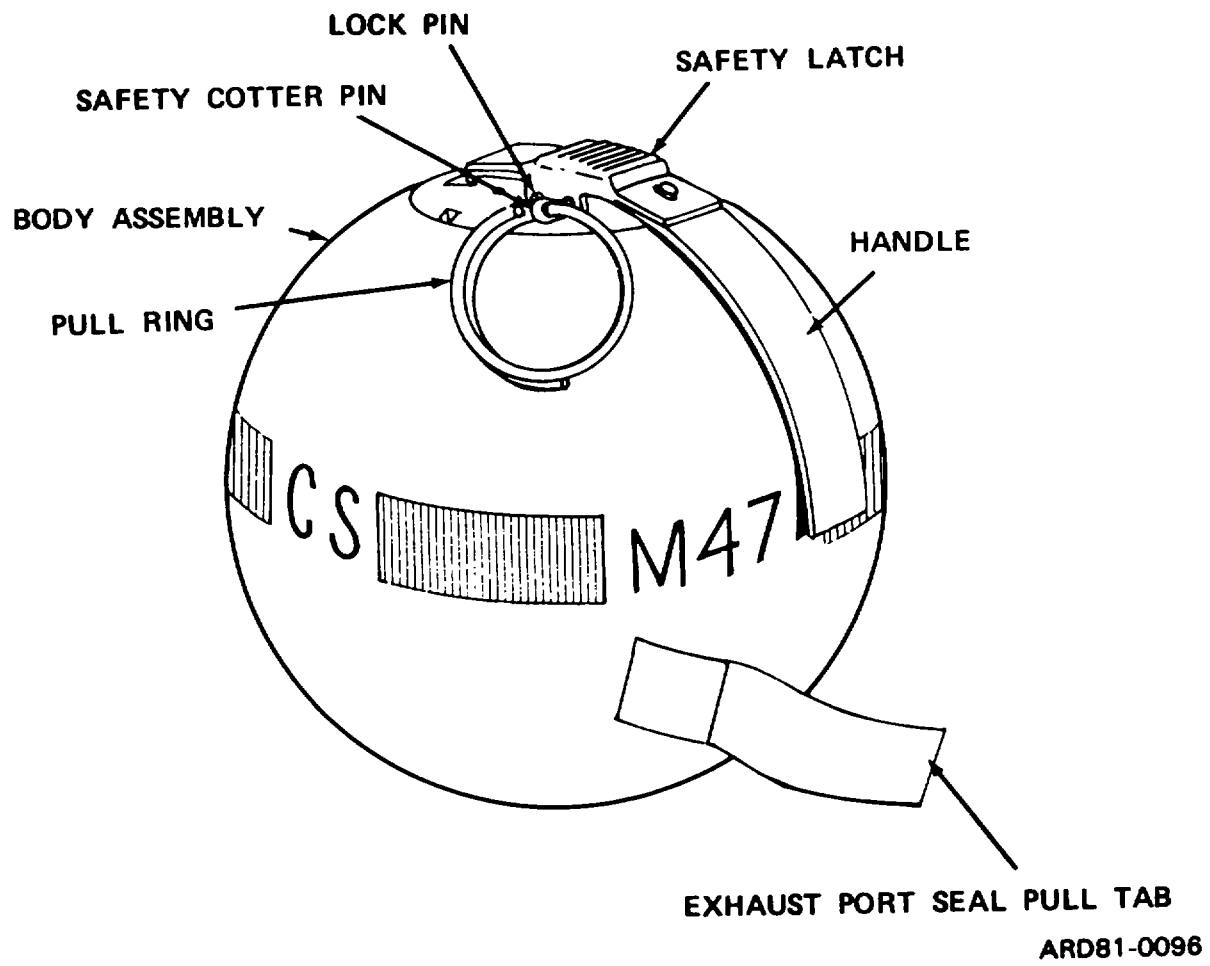
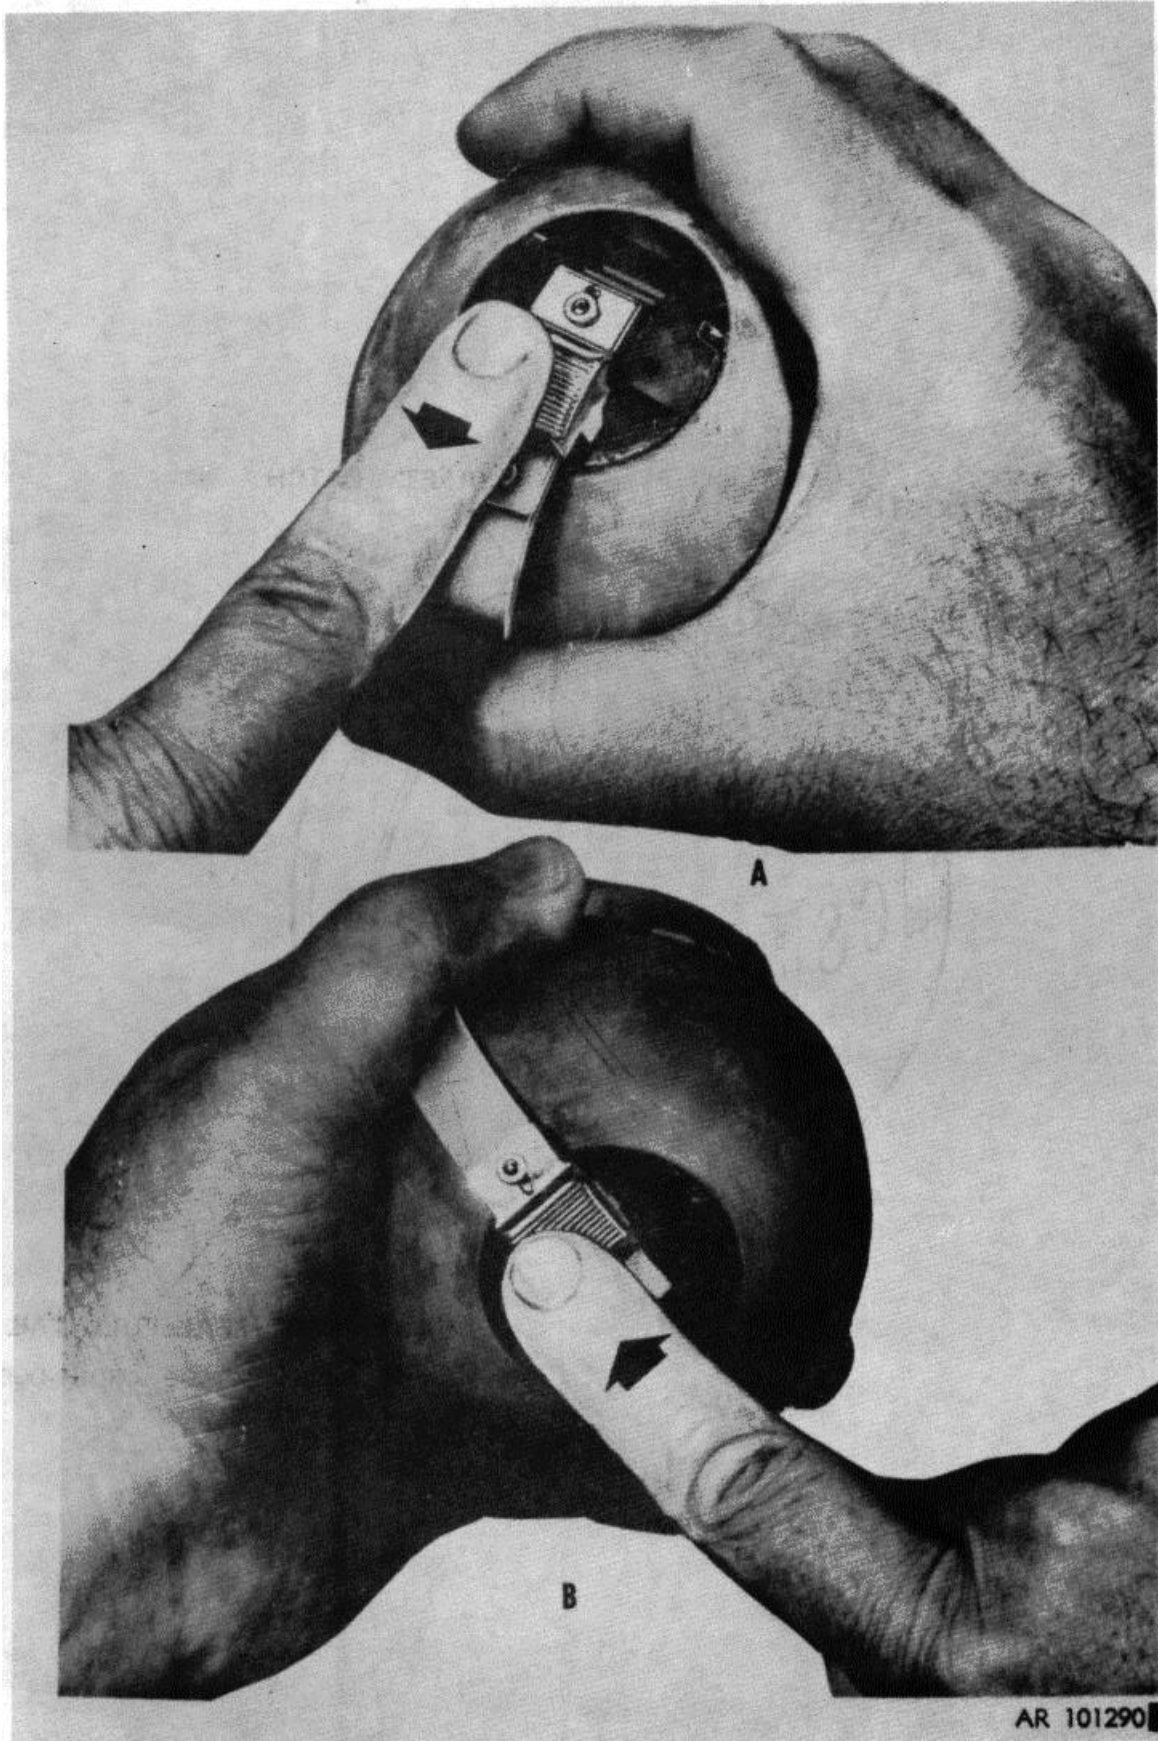

Figure 1-2. CS riot hand grenade M47.
Figure 1-3. Pushing safety latch to armed position (A, righthanded thrower; B, left-handed thrower).
(2) *Grenades M47 (fig. 1-2) and M48.* Grenade fuze M227 is restrained from functioning by the safety cotter pin, sliding safety latch, and handle. The exhaust port seal is removed and discarded immediately before pulling the safety cotter pin. When the safety cotter pin is removed and the safety latch is pushed rearward (fig. 1-3) from the lock pin, the handle is unlocked and the GRENADE IS ARMED. Releasing the handle causes the arming pin spring to eject the arming pin. This releases the firing pin, allowing the firing pin to activate the primer. The primer ignites the first-fire mixture, which flashes and ignites the delay mixture. This, in turn, ignites the ignition mixture. The ignition mixture burns through an aluminum foil shield on the bottom of the fuze and ignites the granulated CS pyrotechnic mixture in the grenade body. The burning mixture builds up pressure and opens the tape covering the exhaust port. This pressure also forces release of CS from the grenade, while jet action causes the grenade to move quickly and erratically along the ground. The M48 functions in the same manner as the M47, except that the M48 emits red smoke.